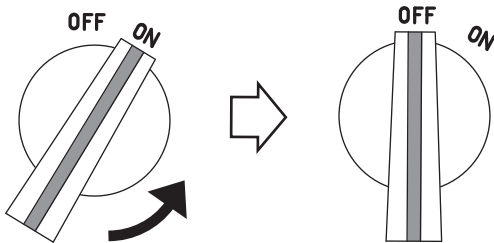

Fig.19
- 2 Turn the engine switch to the OFF position, then the engine stops. (Fig. 19)